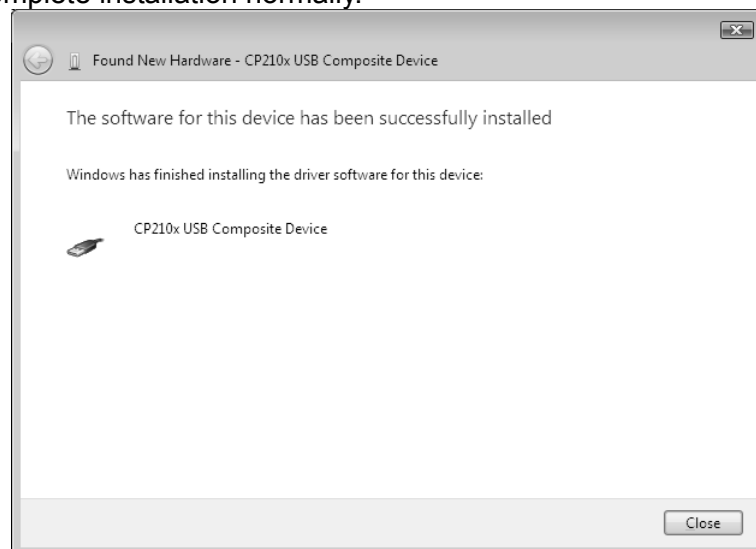

Fig. 48 Installation complete
- (11) Click **Next** to start installation of the driver. When the installation is completed, the screen shown in Fig.48.